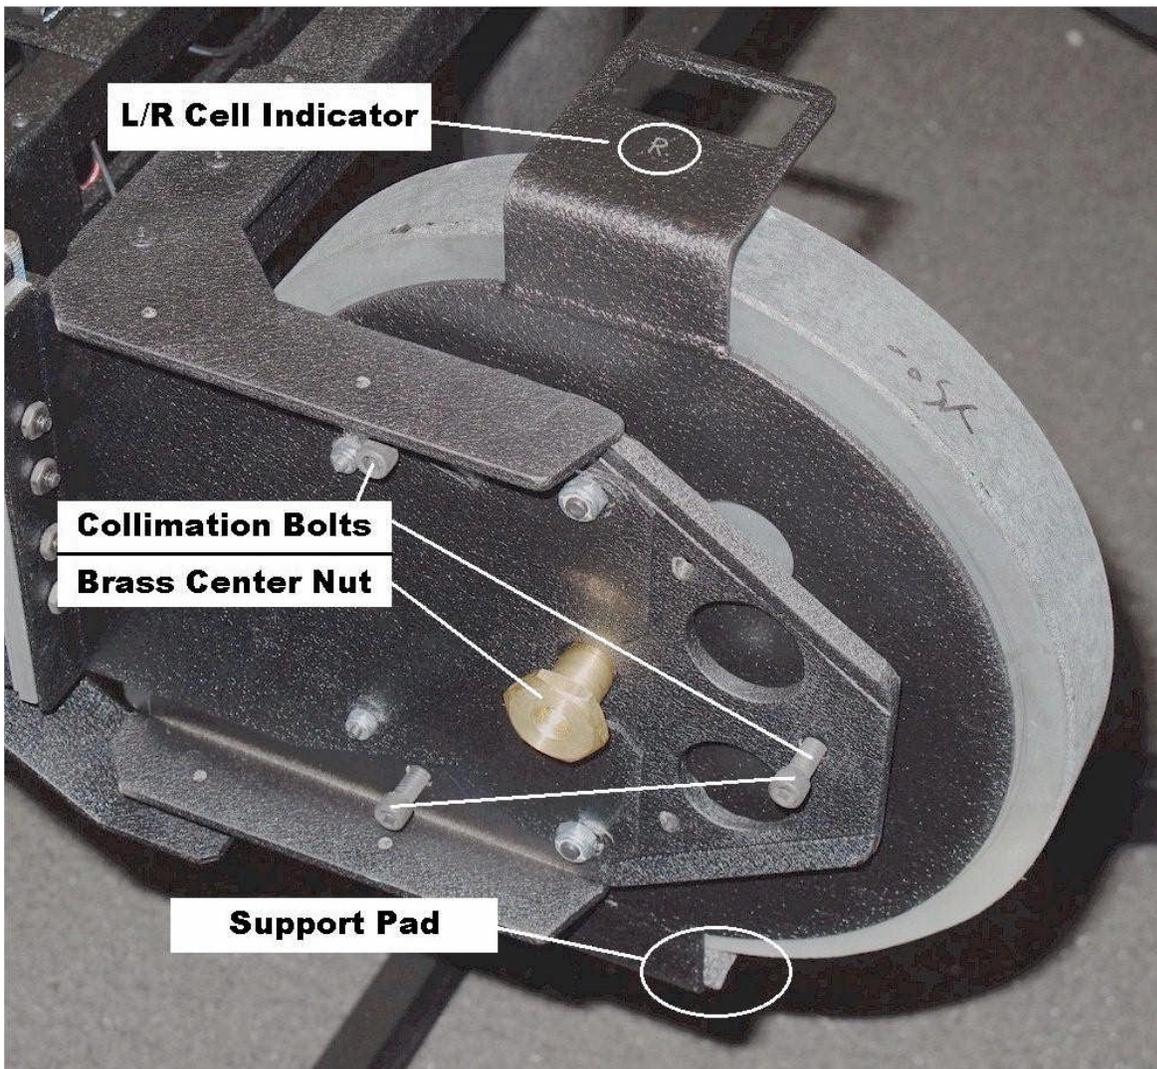

Figure 24
1. Do not touch or change the position of the three collimation bolts (see Figure 24).
5. When putting the mirror cell back on the telescope, support the cell with one hand and slide the threaded stud through the mounting hole. Each mirror has a support pad between the mirror and the bottom handle and a letter on the top handle to denote whether it is the left or right mirror as seen from the back of the telescope (see Figure 24).